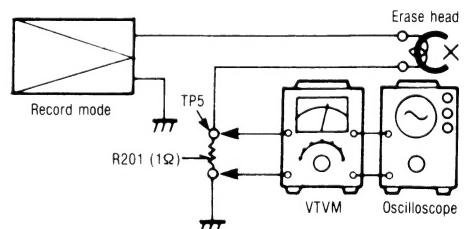

Fig. 12
<ol style="list-style-type: none"> Test equipment connection is shown in fig. 12. Place UNIT into metal tape mode. Press the record and pause buttons. Read voltage on VTVM and calculate erase current by following formula: 	$\text{Erase current (A)} = \frac{\text{Voltage across resistor R201}}{1 (\Omega)}$